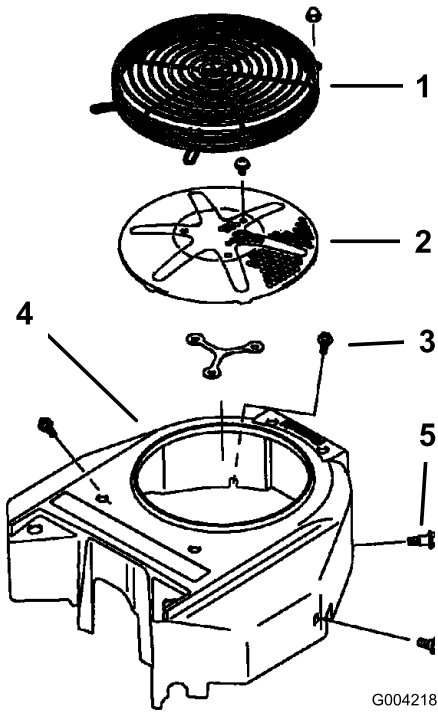

Figure 73
Before each use, remove any buildup of grass, dirt, or other debris from the engine screen. This will help ensure adequate cooling, correct the engine speed, and will reduce the possibility of overheating and mechanical damage to the engine (Figure 73).
3. Remove the air-intake screen, the recoil starter, and the fan housing (Figure 73).
5. Install the air-intake screen, the recoil starter, and the fan housing (Figure 73).